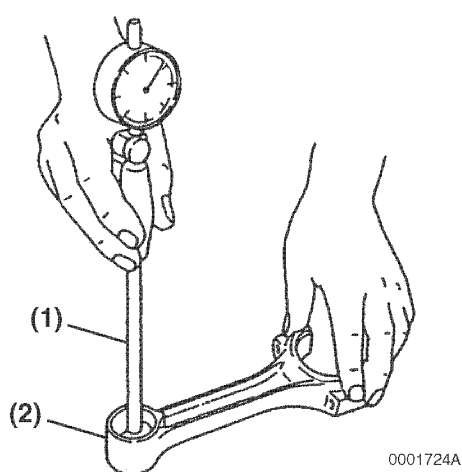

Figure 6-55
1. Measure the wrist pin bushing bore using a bore gauge (**Figure 6-55, (1)**). Record the measurement. Replace the bushing if not within specifications. If the bushing has been removed, measure the inside diameter of the connecting rod small end (**Figure 6-55, (2)**). See *Connecting Rod* on page 6-13 for specifications.